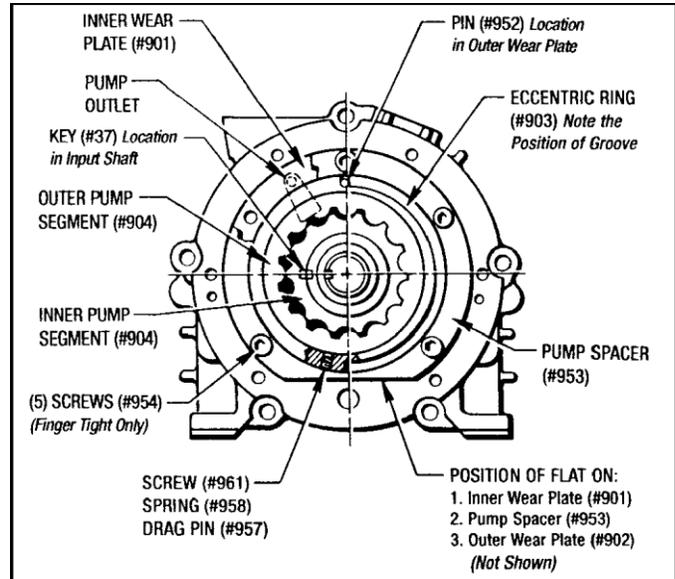
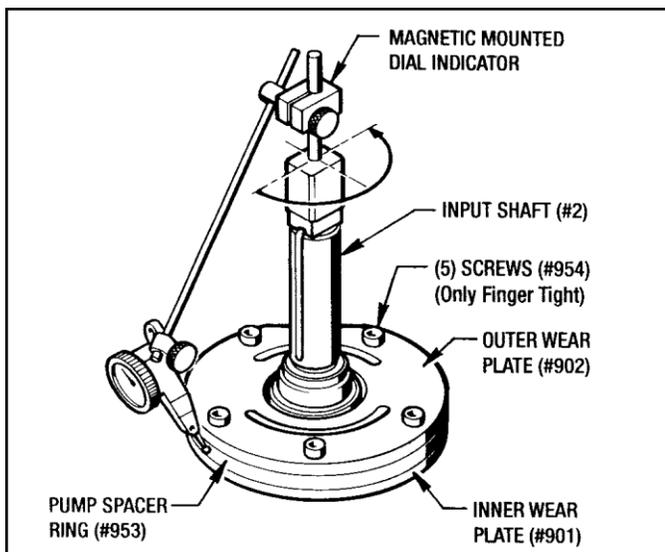

Figure 9.05 - Hydraulic Pump Assembly (End View)
Figure 9.07 - Checking Concentric Alignment
(See Figures 9.05, 9.06, 9.07 and 10.02)
3. Manually turn the Input Shaft so the Key (#37) is positioned at the top as shown in Figure 9.05.
4. Slide the Inner Pump Segment (#904) down over the Input Shaft aligning the keyway with the Key (#37). (See Figure 9.05)
5. Place the Outer Pump Segment (#904) on the Inner Wear Plate (#901) and in position with the Inner Pump Segment. (See Figure 9.05)
7. Position the Eccentric Ring (#903) over the Outer Pump Segment (#904) with the eccentric groove at the top as shown in *Figure 9.05*.
9. Position the Pump Spacer (#953) so the flat is at the bottom as shown in *Figure 9.05*.
11. Insert the (5) Screws (#954) into the Outer Wear Plate (#902). Use Blue Loctite (**Removable Threadlocker #242**) on the threads. **Only finger tighten at this point.**
12. The concentric alignment of the Pump Assembly must be checked with a magnetic dial indicator placed on the end of the Input Shaft as shown in *Figure 9.07*. Rotate the input shaft 180° and note runout reading. If necessary, adjust position of the Pump Assembly with a light tap using a small hammer: Continue this alignment procedure until the maximum runout on the O.D. of the Pump Spacer is .001" or less. Tighten the (5) Screws (#954).